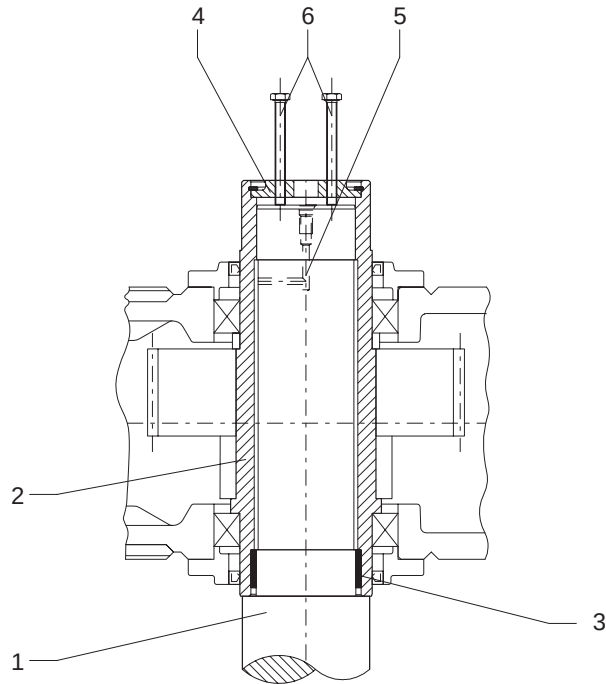

Fig. 9
- If frictional corrosion has formed on the seating surfaces, press rust-releasing or other agent (e.g. with a pump) into the bore cavity to reach the seats. The rust releaser is forced in through the bores in the machine shaft (see fig. 8) or end plate (fig. 9).
- Depending on the facilities available, the gear unit can be forced off the shaft on site using forcing screws in an end plate (see fig. 9), a central threaded spindle or a Lucas hydraulic lifting unit.